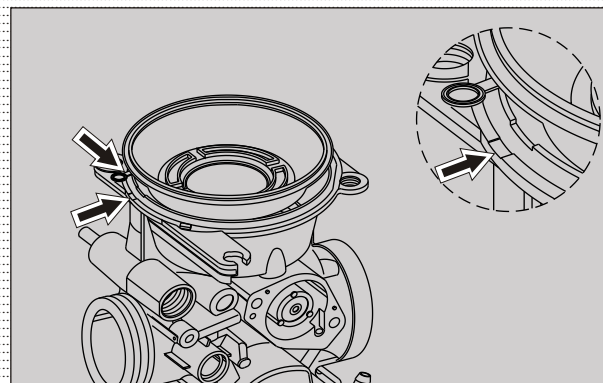

Fig. 4.37
- Assemble piston valve in such a way that the hook like projection of diaphragm matches with the groove of mixing body. (Fig. 4.37)